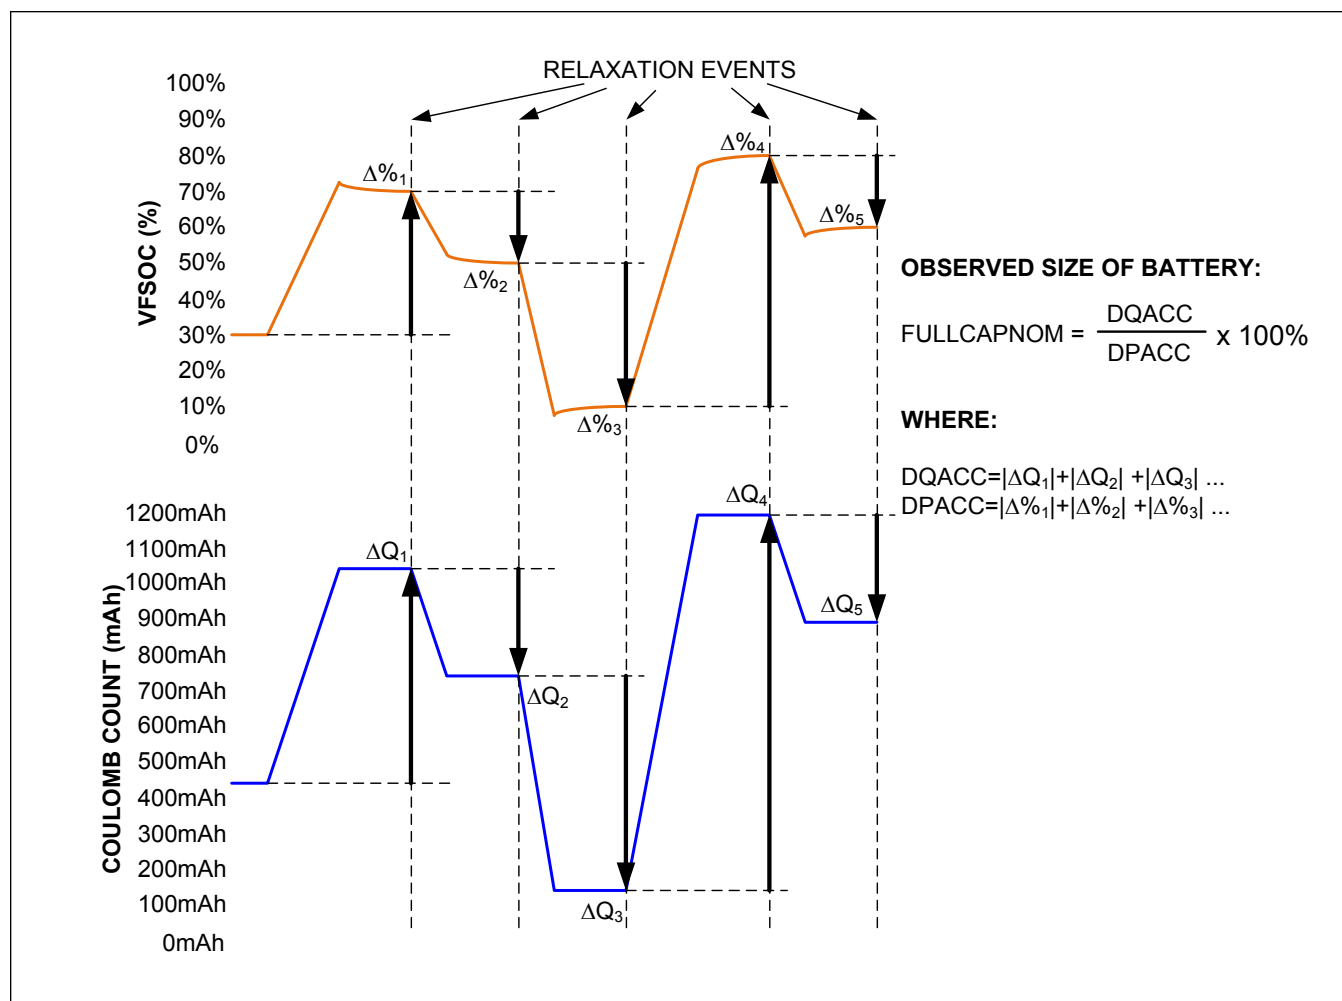

Figure 17. FullCapNom Learning
- **Cell Capacity (FullCapNom Register).** This is the total cell capacity at full, according to the voltage fuel gauge. This includes some capacity that is not available to the application at high loads and/or low temperatures. The IC periodically compares percent change based on an open circuit voltage measurement vs. coulomb-count change as the cell charges and discharges, maintaining an accurate estimation of the pack capacity in mAh as the pack ages. See Figure 17.